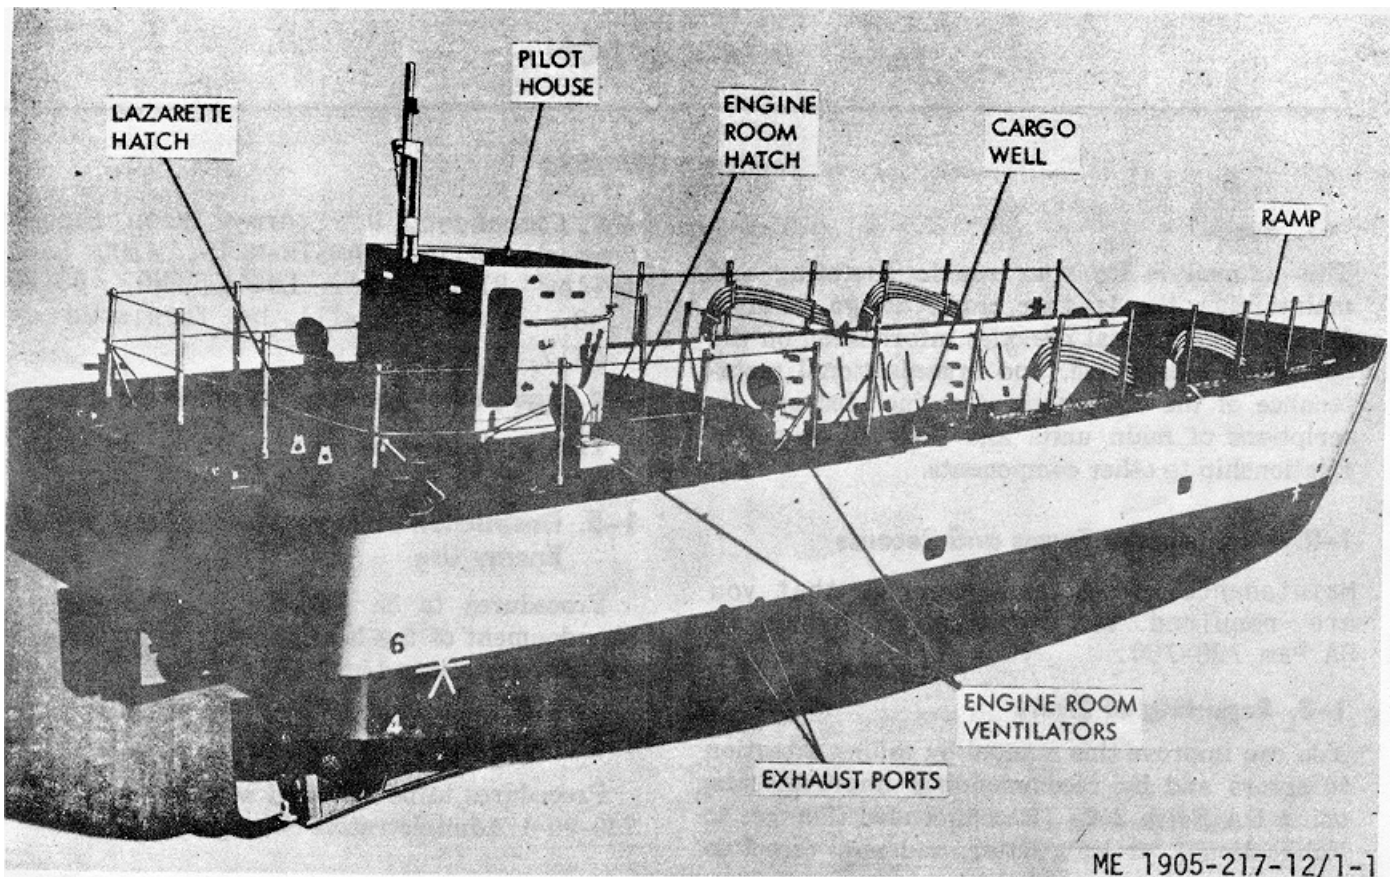

Figure 1-1. Landing craft, mechanized, diesel, design, LCM-8, MOD-1. (Marinette and Gunderson Models)
*a. General.* The LCM-8, MOD 1, Landing Craft (fig. 1-1 and 1-2) is a welded steel, twinscrew type craft. It is used to transport cargo, troops, and vehicles from ship shore, shore-to shore, or in retrograde movements. It may be utilized for lighterage and utility work in harbors. It is intended for use in rough or exposed waters and is capable of operating through breakers and grounding on a beach, remaining upright and tight, and retracting from the beach under its own power. The craft is propelled by two twin-engine propulsion units, and is capable of a speed of nine knots when fully equipped. The maintenance paragraphs of this manual contain detailed descriptions of the components of the LCM's.